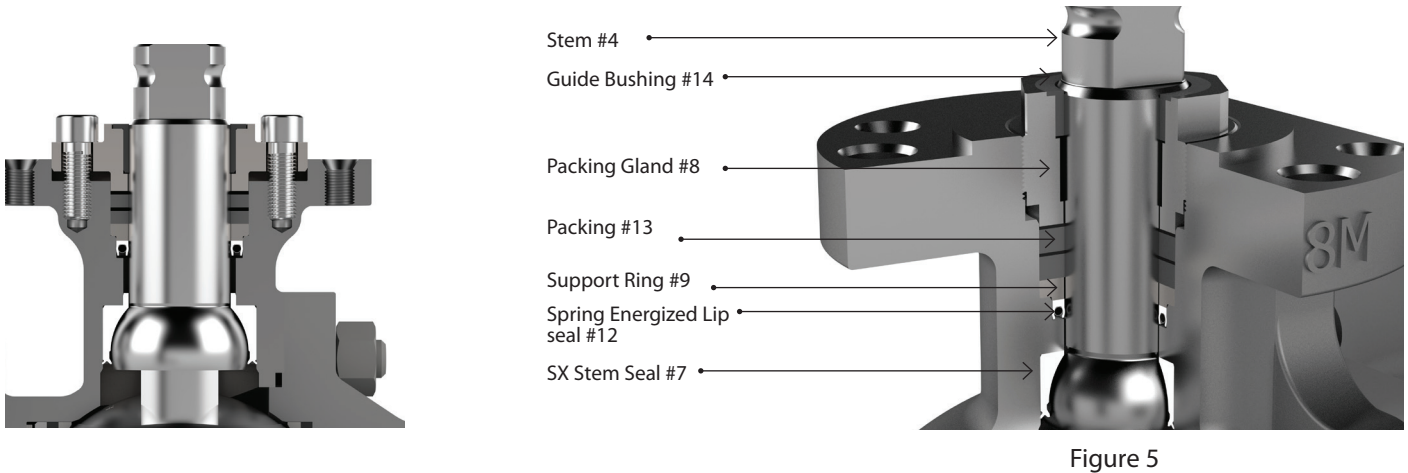

Figure 5
5. Install the support ring (#9) over the stem (#4) with the raised step facing downward until it locates at the bottom of the packing chamber. (See Fig. 5).